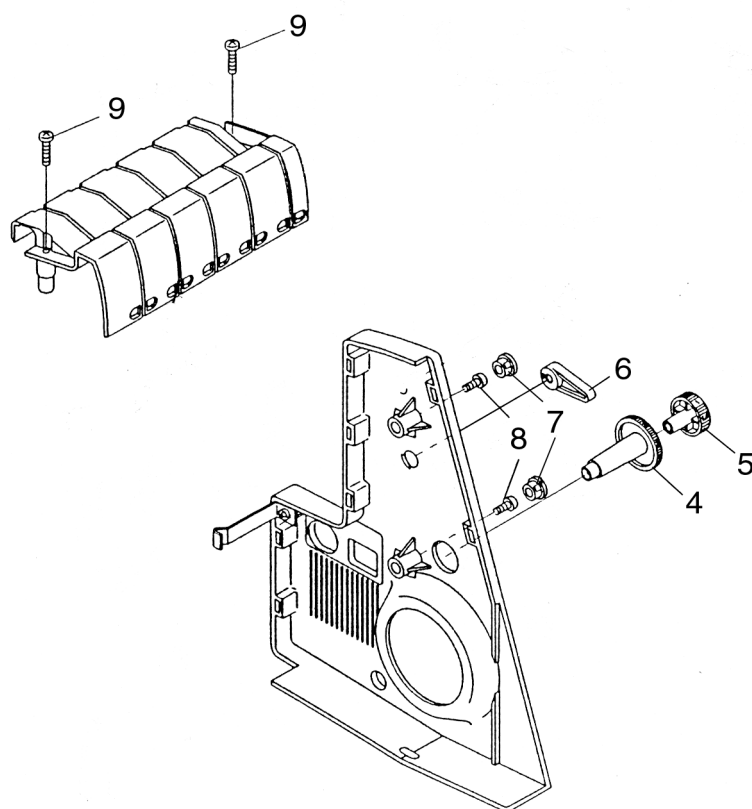

Fig. 4
- The following parts are now removed to the right (fig. 4):